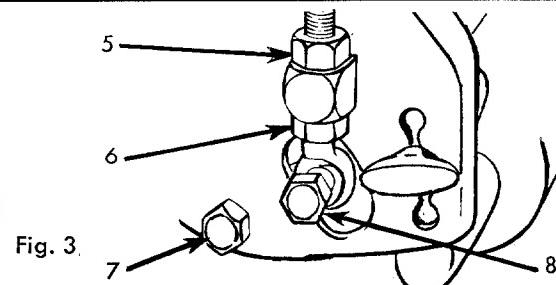

Fig. 3.
1. (Fig. 3) Loosen top nut (5) one quarter turn.
2. Tighten lower nut (6).